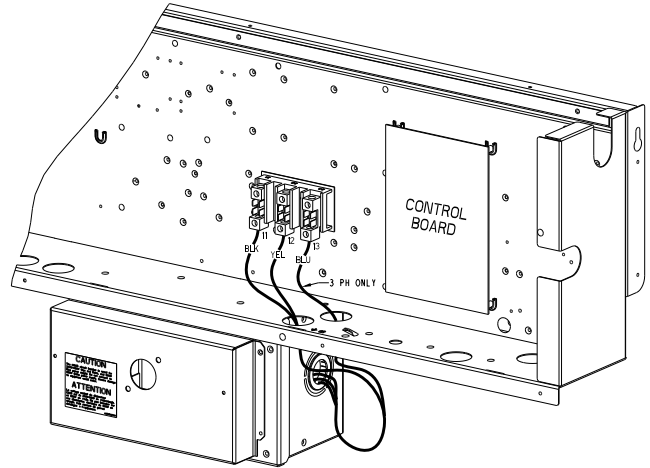

Fig. 21 — HACR Enclosure Location
1. Remove the control box access panel. The HACR enclosure is located below the control box (see Fig. 21).